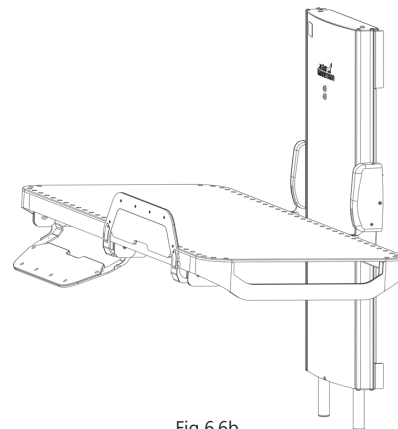

Fig 6.6b
- Pull down on the front edge of the guard so it rotates down. Take care not to let go as it may swing around on its own. (Fig 6.6b)